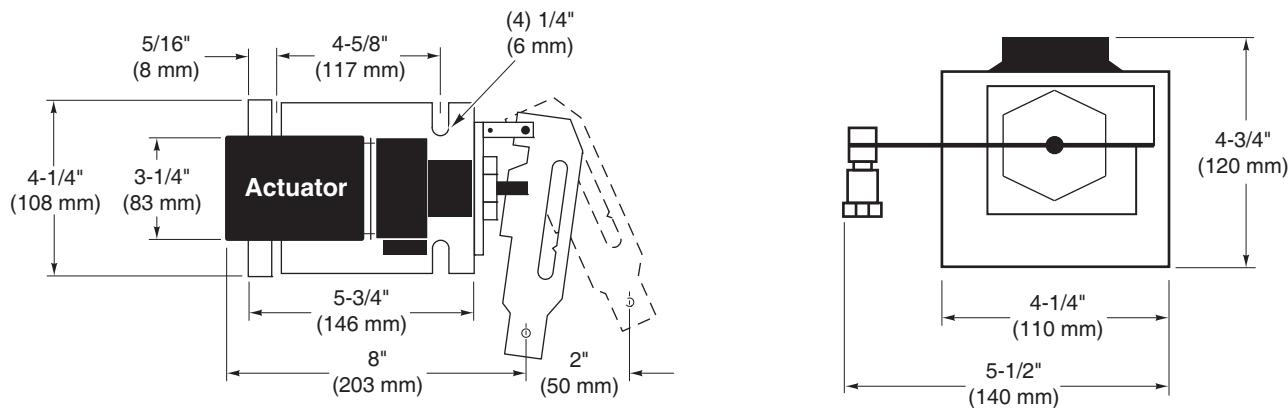

Figure-18 Damper Linkage Assembly Dimensions.
- b. Be sure to allow adequate working space around the actuator mounting location to mount the actuator, link it to the damper, and wire it into the system (refer to Figure-18).
2. Position the actuator on the duct and mark the location of the mounting holes, using the actuator mounting bracket as a template (refer to Figure-18).